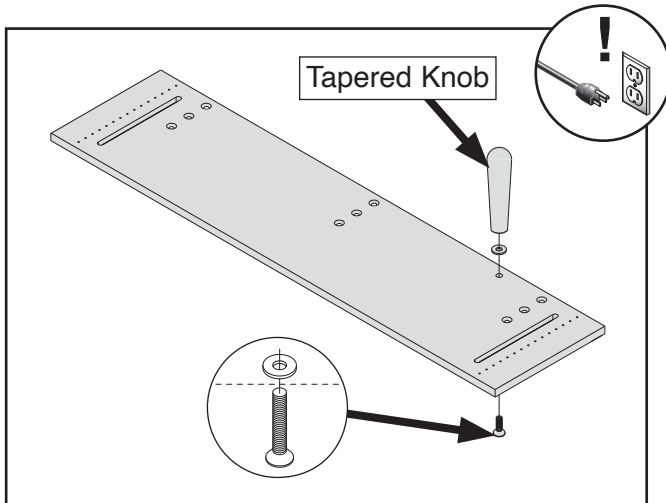

Figure 3. Attaching tapered knob to jig base.
3. Attach $\frac{5}{16}$ "-18 tapered knob to jig base with $\frac{5}{16}$ " flat washer and $\frac{5}{16}$ "-18 x 1" flat head screw (see **Figure 3**).